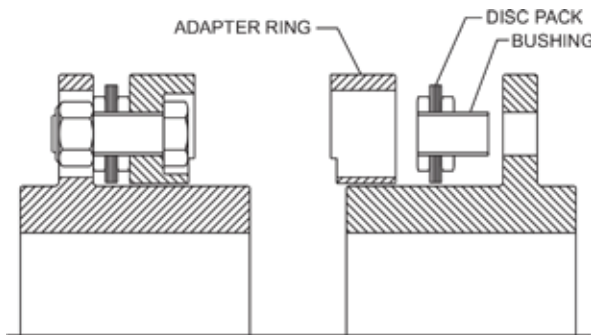

Figure 4. KD1 Disc Pack Assembly
3.1 Line up the disc pack bushings with the reamed holes in the hub. Lightly tap on the bushings to start them in the reamed holes (See Figure 4).
3.3 Position the adapter ring over the hub so that the spacer pilot and counterbored holes are on the face opposite the disc pack. (see Figure 4).